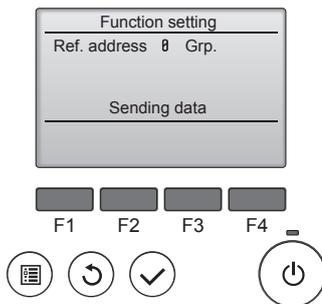
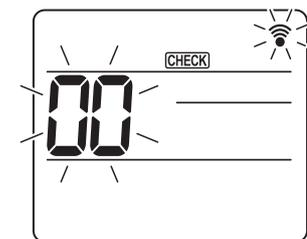
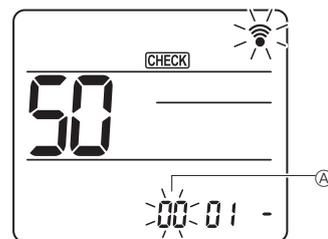
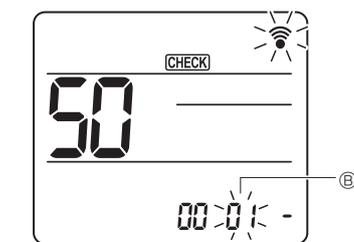

Fig. 6-15
Fig. 6-16
Fig. 6-17
Fig. 6-18
- ⑤ (Fig. 6-15)
- ① Going to the function select mode
- Press the [MENU] button between of 5 seconds. (Start this operation from the status of remote controller display turned off.) [CHECK] is lighted and "00" blinks. (Fig. 6-16)
- ② Setting the unit number
- Press the [DOWN] button to set unit number A. (Fig. 6-17)
- ③ Select a mode
- Press the [DOWN] button to set Mode number B. (Fig. 6-18)